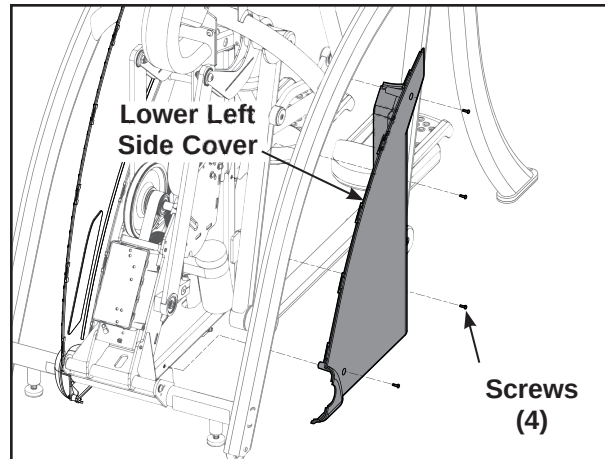

Figure 7
- A. Using a Phillips screwdriver, remove the four screws securing each of the lower side covers. See Figure 7.
- A. Hold the lower covers in place. See Figure 7.